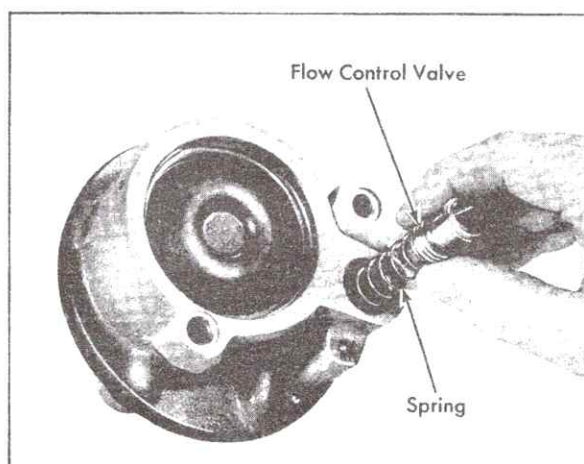

Fig. 9-20 Installing Flow Control Valve
19. Install flow control valve; hex head screw goes into bore first, Fig. 9-20.